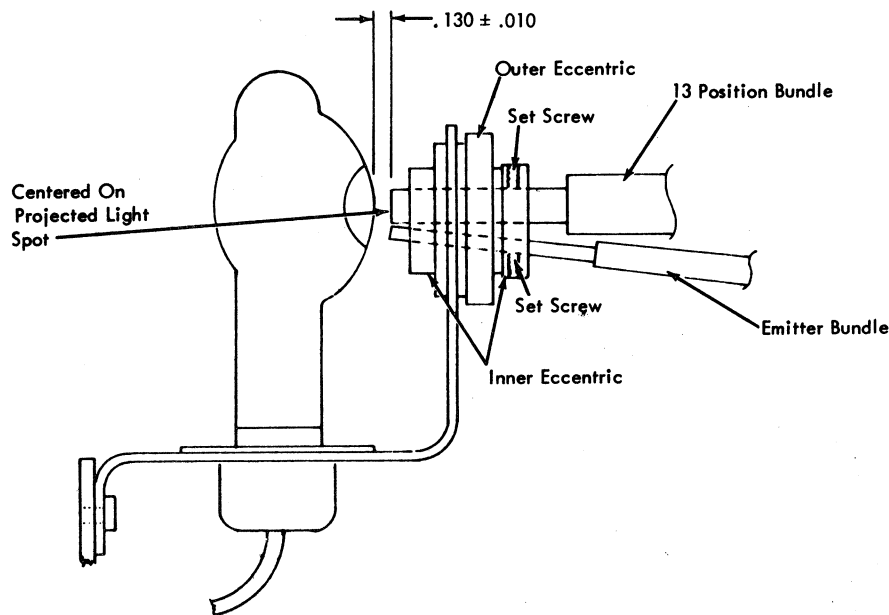

Figure 4-18. Fiber Optic Bundles and Light Source Adjustment
1. Center the 13-position bundle in projected light spot (Figure 4-18). The edge of a card can be placed against the outer circumference of the bundle to help determine that the light spot completely encompasses the bundle surface. Do not touch lamp with card.